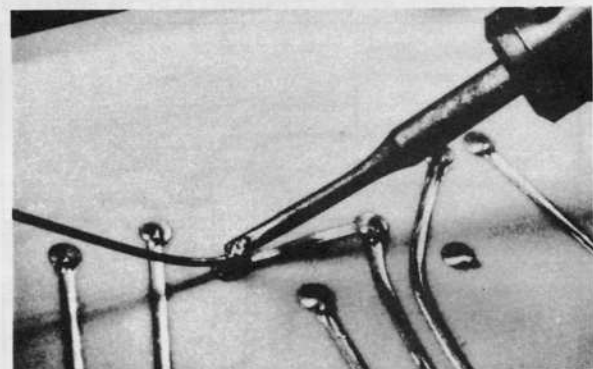

FIGURE 15. SOLDERING FUNNELET TO TRACK
STEP 13—After setting Funnelet/Eyelet, check alignment and overlap of the TRAK-PAD Track with existing conductor (see Figure 15). (*If alignment is necessary, insert Pro/Vise blade into Funnelet/Eyelet barrel and turn for fine alignment. This avoids bending of Track*). Solder Funnelet/Eyelet to Pad or Land. (**NOTE:** PACE Fused Eyeletting Systems provide the means for "Flat Setting" and "Hot Fusing" pre-tinned Eyelets to create the most reliable interface repair for damaged Plated Thru-Holes (PTH) on double-sided boards. (See Equipment and Training).